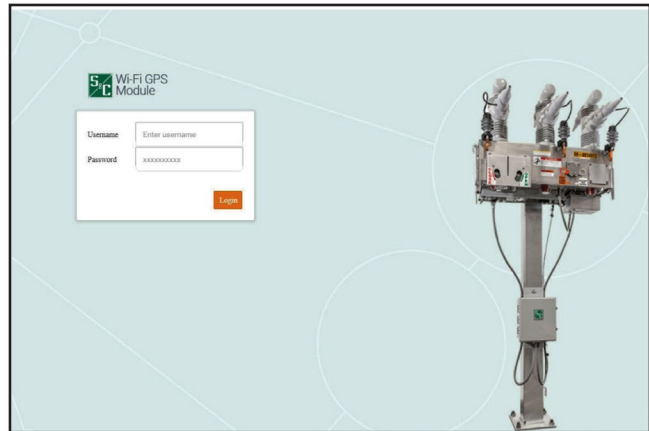

Figure 26. The *Login* screen - R3 Communication Module running 2.1.x software or earlier.
The *Login* screen opens with a username and password challenge. See Figure 26. These screens are displayed in the Internet browser on the computer.
- STEP 4.** Enter the username and password and click on the **Login** button. Authentication status is displayed. See Figures 26 and 27.